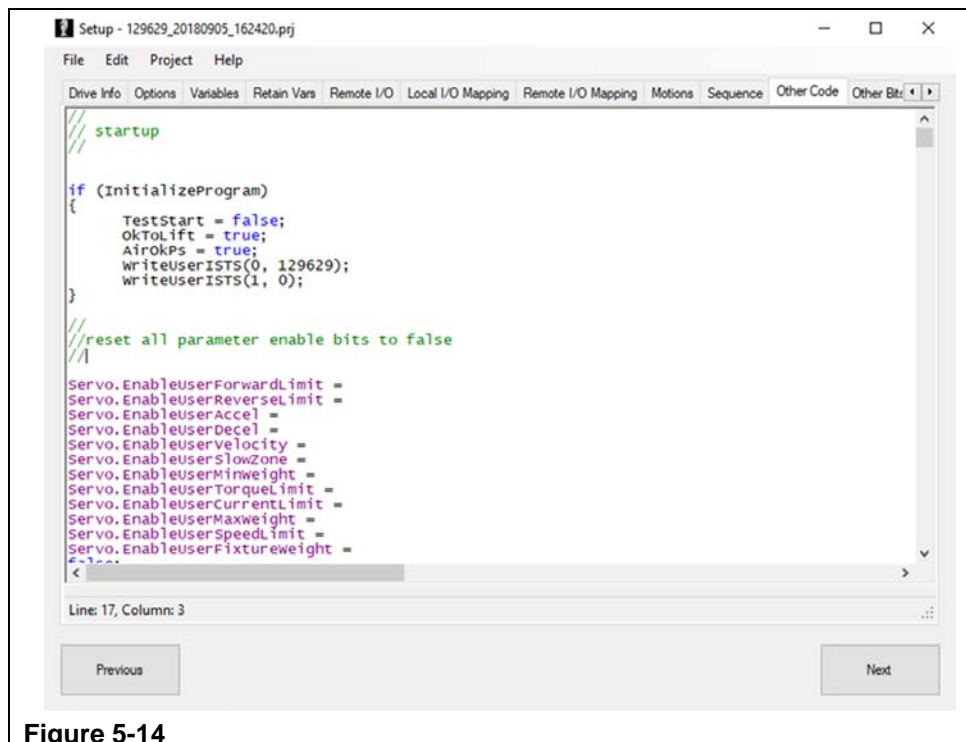

Figure 5-14
- Step 6. The 'Other Code' Tab can be selected to review application specific code. (Refer to Figure 5-14)